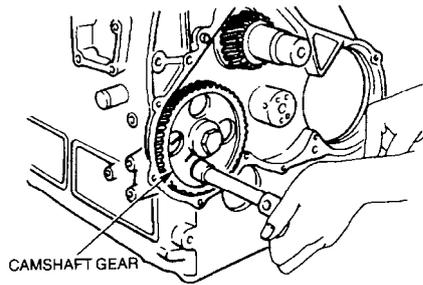

Figure 41 Installing the Camshaft
- n. Carefully install the camshaft, ensuring that the lobes are not dragged across the bearings. Install and tighten the thrust plate retaining bolts (Figure 41) to 21 to 30 N.m (15 to 22 lbf.ft).